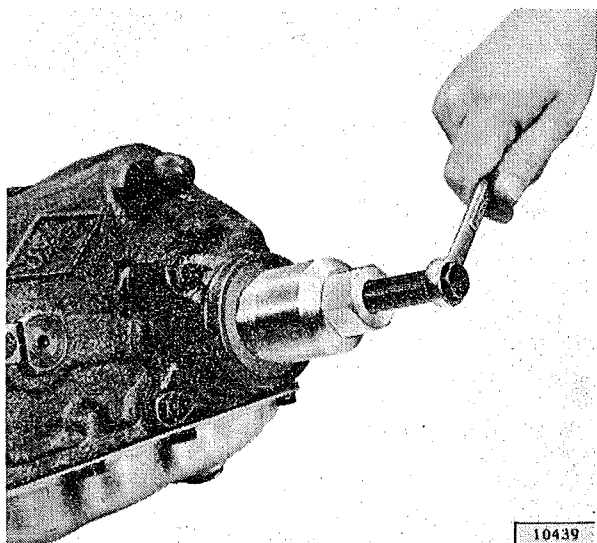
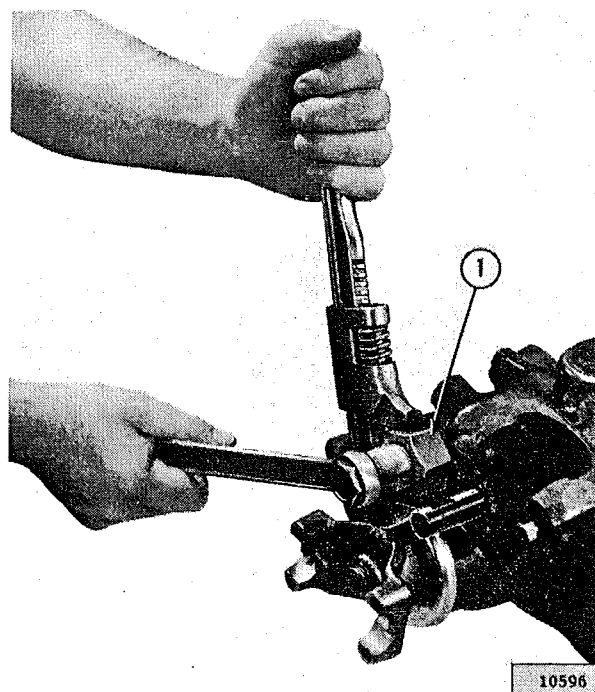

FIG. 117—PULLING OUTPUT SHAFT OIL SEAL
FIG. 118—SHIFT ROD OIL SEAL PULLER
- b. Remove the yoke oil seal (5) with Tool W-251, as shown in Fig. 117. Remove the shift rod oil seals (24) with Tool W-176, as shown in Fig. 118.
Remove the oil seal with Tool W-251, as shown in Fig. 117.